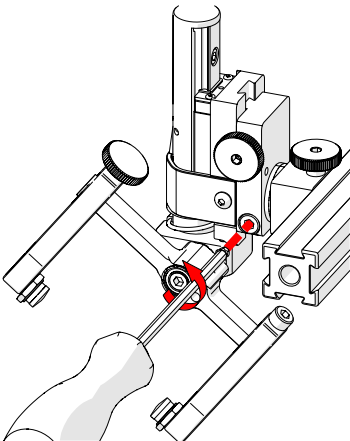

Fig. 139 - Loosen 3 mm screw
2. Using the supplied 3 mm hex driver (*Fig. 44*), loosen the longitudinal adjustment screw (*Fig. 139*).